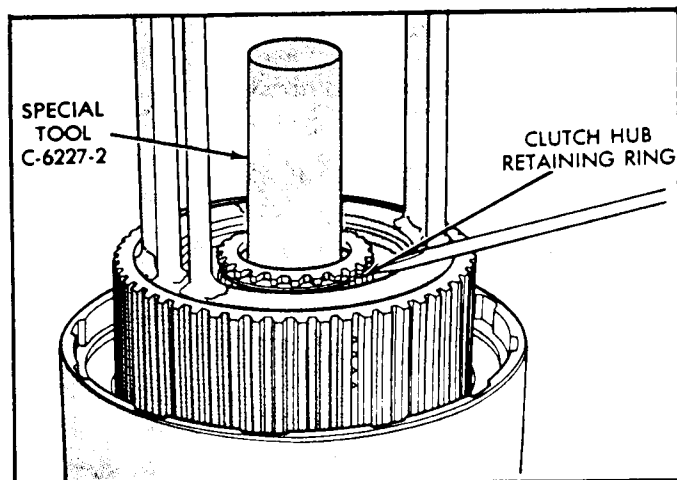

Figure 21
31. Install the clutch hub retaining ring, as shown in Figure 21, and "Ensure" that snap ring is fully seated in the snap ring groove.